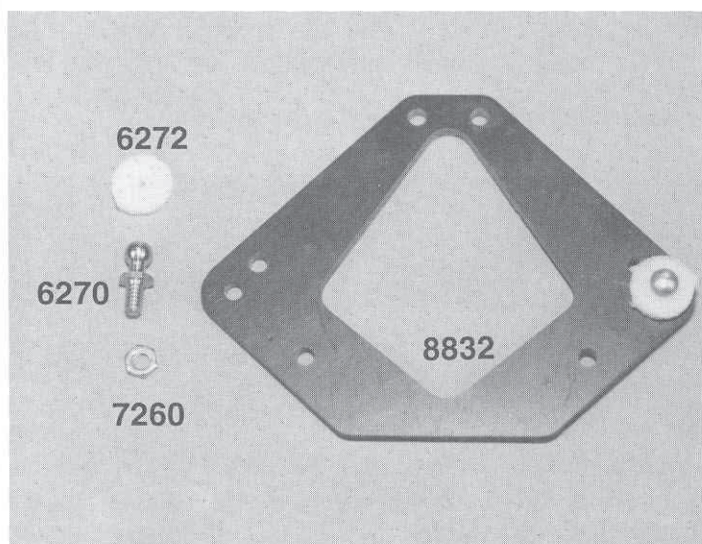

Fig. 16
□ **Figs. 16 & 17** 1) Remove the #8832 fiberglass front shock strut from bag #8-1. 2) Now go back to bag #8-14 and remove two #6270 short ball ends, two #7260 small 4-40 plain nuts, and two #6272 foam ball end dust covers. 3) Layout your strut so that the long flat side matches the photo. This will be the bottom of the shock strut. 4) On the sides of the front shock strut you will see two holes. Install the ball ends into the lower hole as shown. 5) Now, thread the 4-40 nut onto the end of the threads on the other side of the shock strut. 6) Now install the foam ball end dust covers over the ball ends.